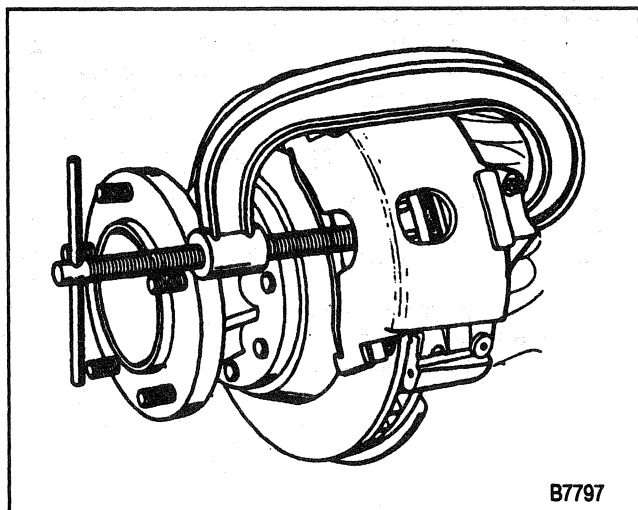

Figure 3—Compressing the Caliper Piston
Remove or Disconnect (Figures 3 through 6)
5. Position a C-clamp and tighten until piston bottoms in bore (Figure 3).